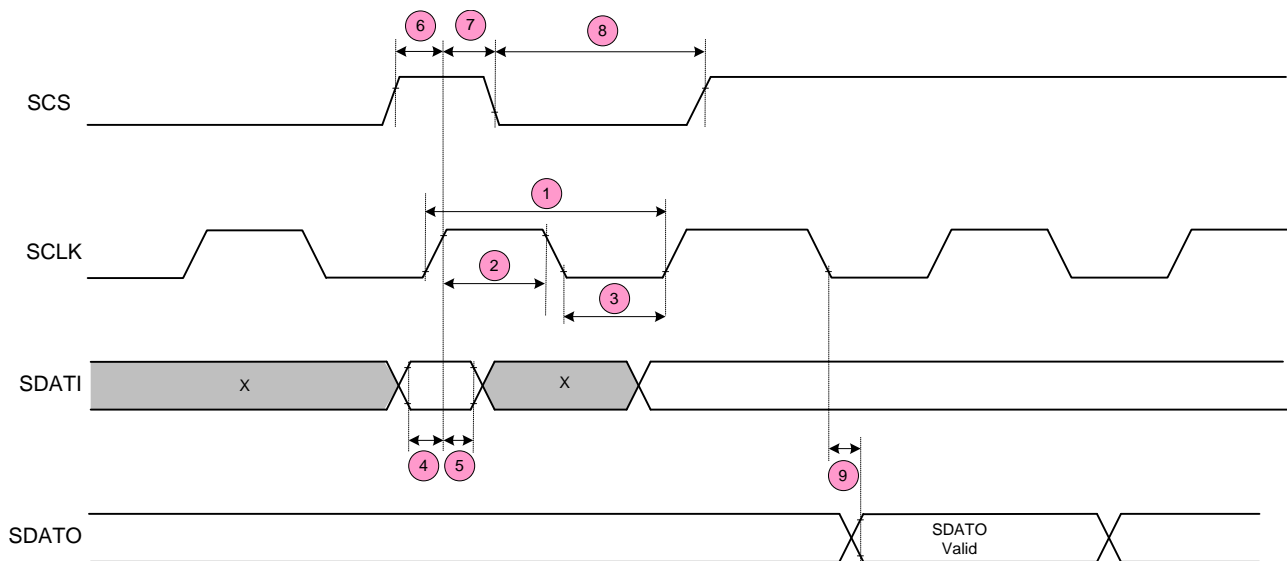

Figure 1. SPI Timing Requirements
(1) SMODE = Low
(2) These numbers refer to the corresponding number in Figure 1